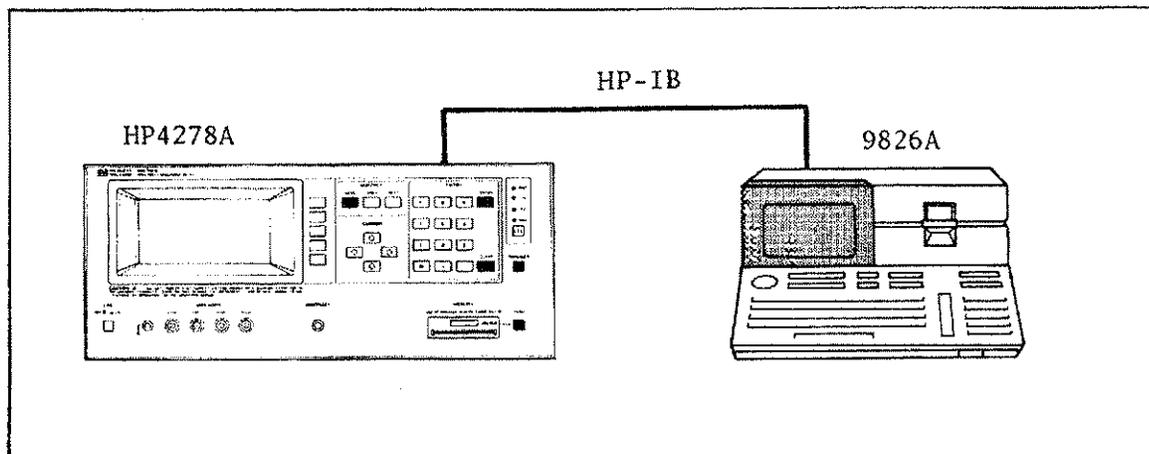

Figure 6-8. HP-IB Interface Test Setup
2. Set up the equipment as shown in Figure 6-8. Use the HP 9826's interface Select Code (7).